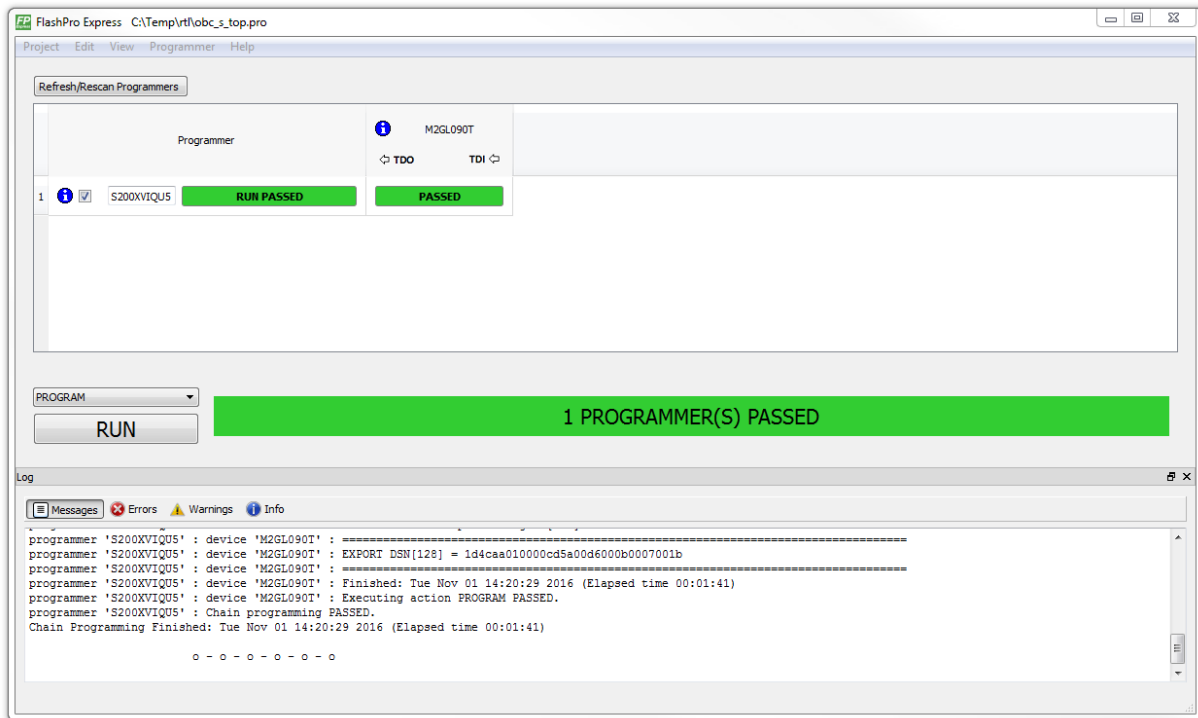

Figure 10-3 - View of FlashPro Express after program passed.
6. The FPGA should now be loaded with the new firmware, which might take a few minutes. Once it is finalized the second last message should be “Chain programming PASSED”, see Figure 10-3.